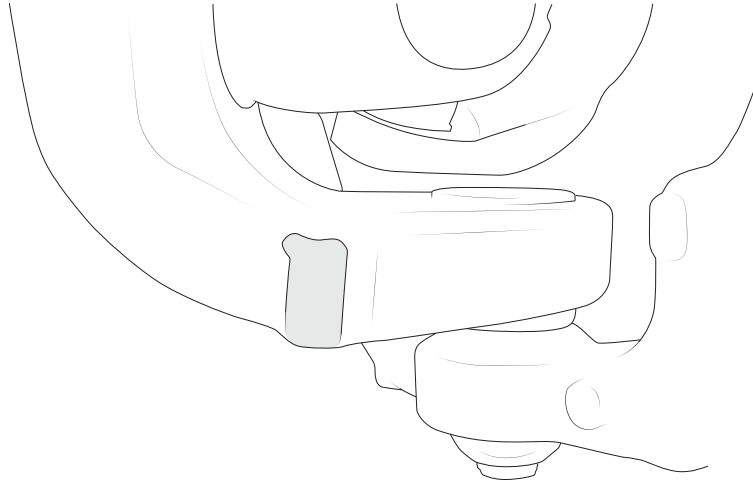

Figure 39
1. Grind the axle where the factory steering stop makes contact with the knuckle. Remove paint to a bright shiny metal for welding (fig. 39).